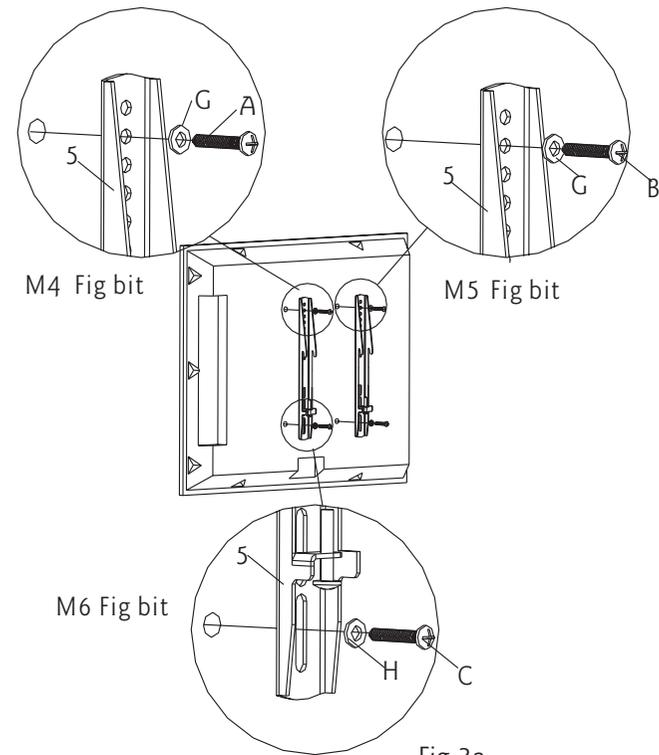

Fig 3a
1. Some displays have vertical backs. No spacer is required. Install the bracket directly to the back of display by using bolts and washers provided. As shown in Fig. 3a.